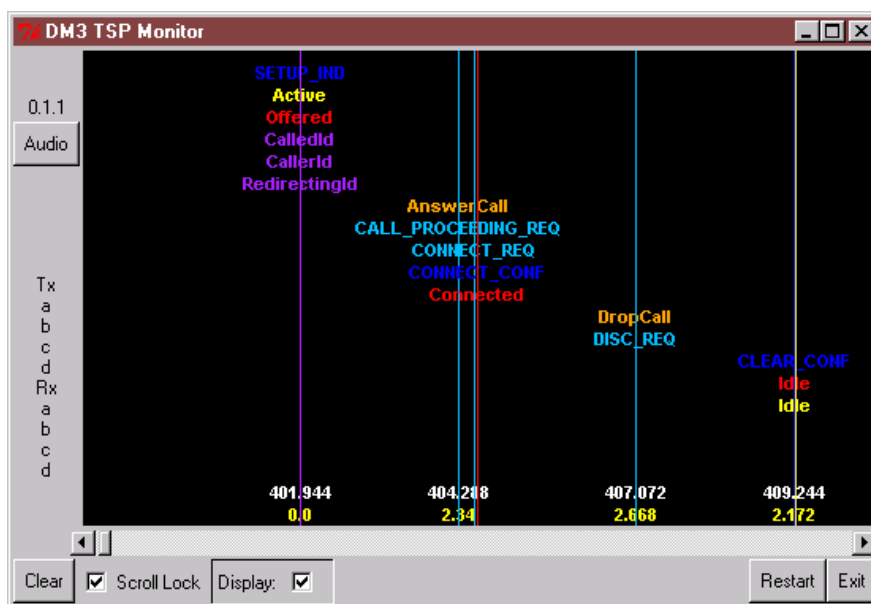

Figure 28. TSP Monitor Display
- Checks timing via point and click on GUI (Figure 28)
Display: Figure 28 shows the *TSP Monitor* display.